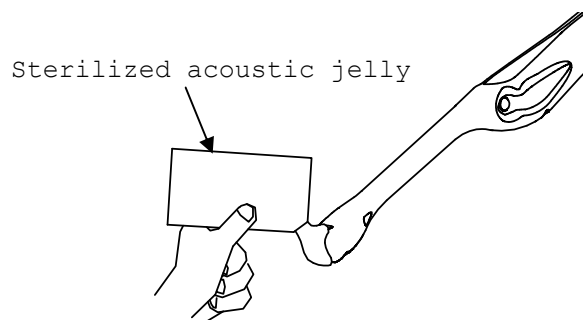

Fig.3 Jelly as a couplant
- 4) Put proper quantity of sterilized acoustic jelly on the probe head as a couplant. (See Fig.3.)